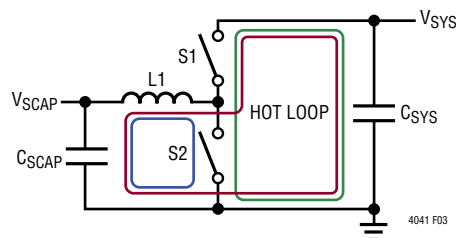

Figure 3. Hot-Loop Illustration for the LTC4041 Switching Converter
1. Even though the converter can operate in both step-down (buck) and step-up (boost) mode, there is only one hot-loop containing high-frequency switching currents. The simplified diagram in Figure 3 can be used to explain the hot-loop in the LTC4041 switching converter. Current follows the blue loop when the switch S2 (NMOS) is closed and the red loop when switch S1 (PMOS) is closed. So it is evident that the current in the C_{SCAP} capacitor is continuous whereas the C_{SYS} current is discontinuous forming a hot loop with the V_{SYS} pins and GND as indicated by the green loop. Since the amount of EMI is directly proportional to the area of this loop, the V_{SYS} capacitor, prioritized over all else, should be placed as close to the V_{SYS} pins as possible and the ground side of the capacitor should return to the ground plane through an array of vias.